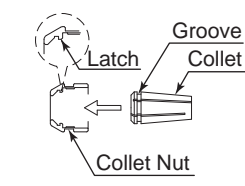
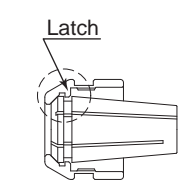

Fig. 6
Fig. 7
- ③ To install the collet, hold the collet at a slight angle, and insert it into the collet nut (Fig. 6). Press the collet in the collet nut by positioning the collet in the collet nut and pressing down on flat surface (Fig. 7). Be sure to fully engage the latch inside the collet nut into the groove on the collet's outer circumference area (Fig. 7).